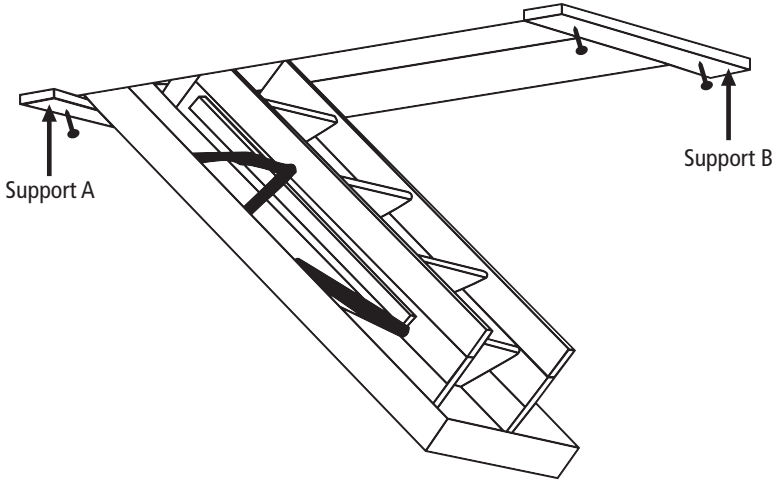

FIGURE 6
E. The person below will need to raise the attic ladder into the rough opening and with assistance from person above position securely on the temporary support boards (Figure 6).